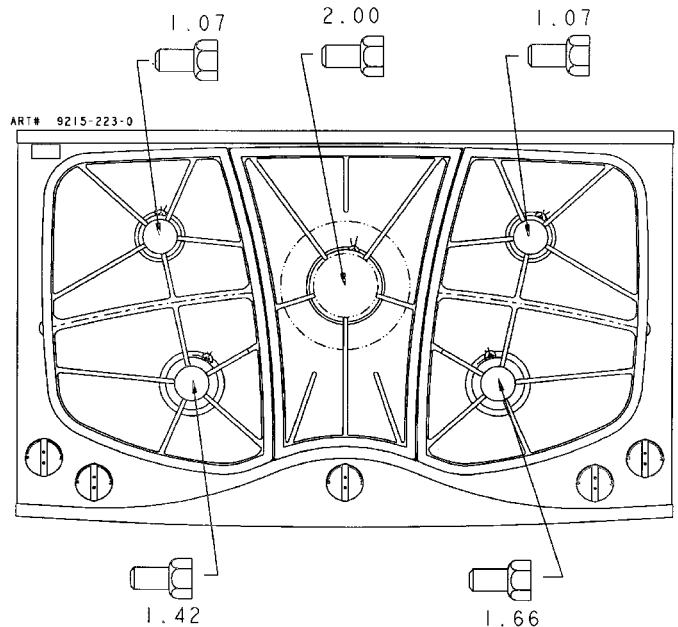

FIGURE 15
4. For Step 5: Locate the brass natural gas orifice spuds that were originally installed in this appliance before its conversion for use with LP gas. Observe the number on each of the spuds and note the correct burner location for each spud as shown in figures 15 and 16.